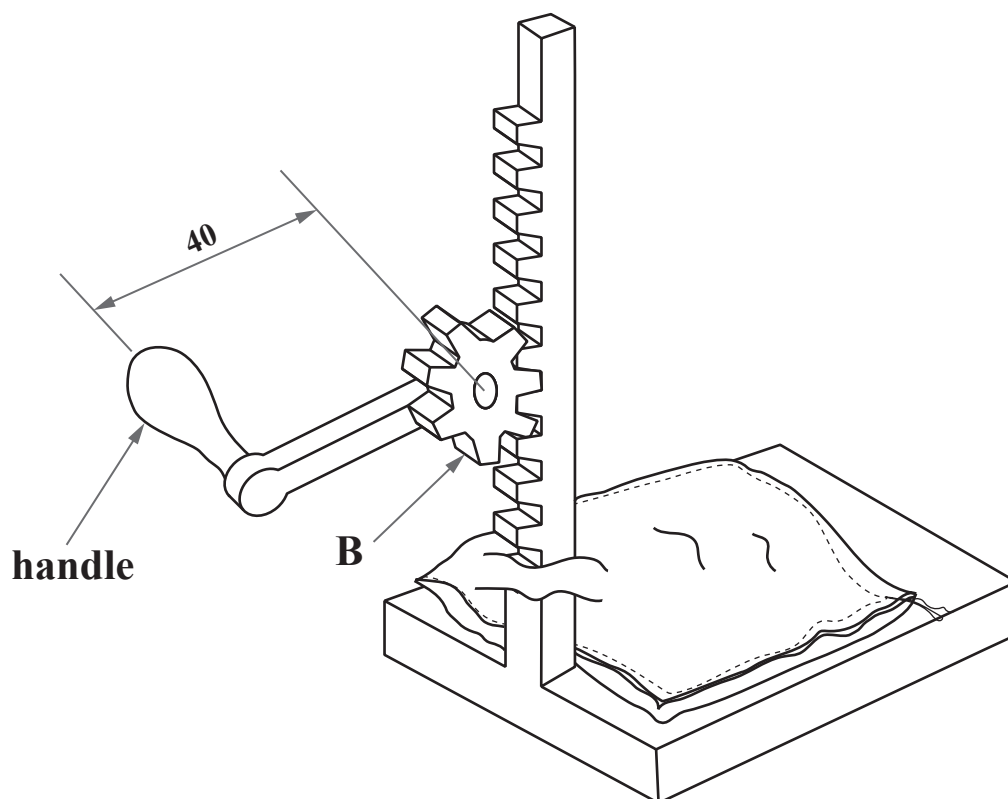

Fig. 7
- 7 **Figure 7** shows part of a machine which lifts grain bags from the ground onto a scotch cart.